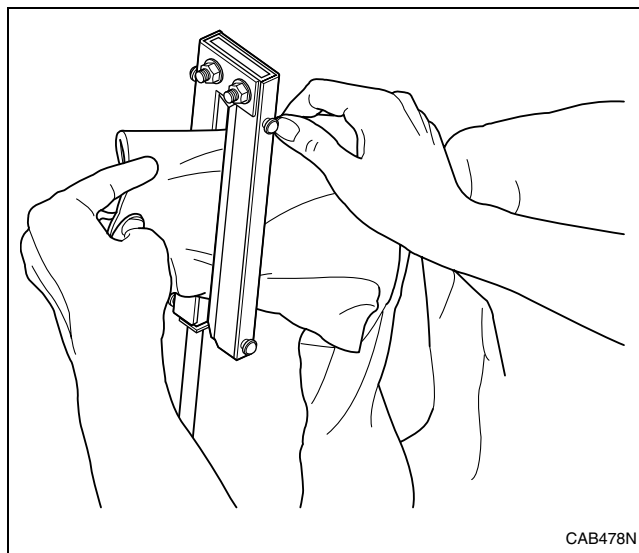

Figure 11
**NOTE: Dress sleeve into clamp at CUFF SEAM. Do NOT place cuff in clamp. Loading cuff into clamp will pinch or crease the cuff. A guide on each clamp will cause you to meet resistance if cuff is accidentally loaded. Refer to *Figure 11*.**